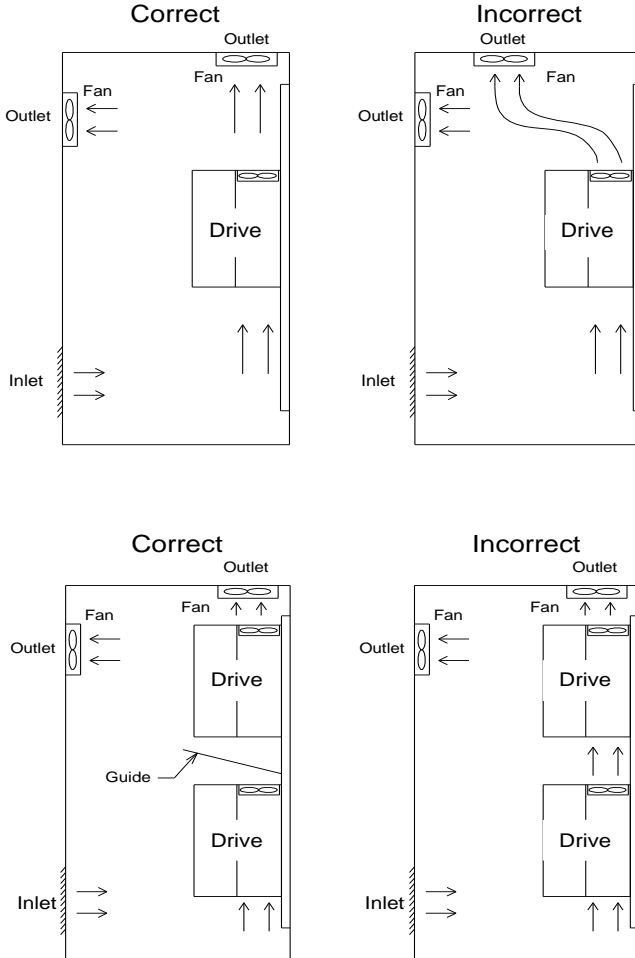
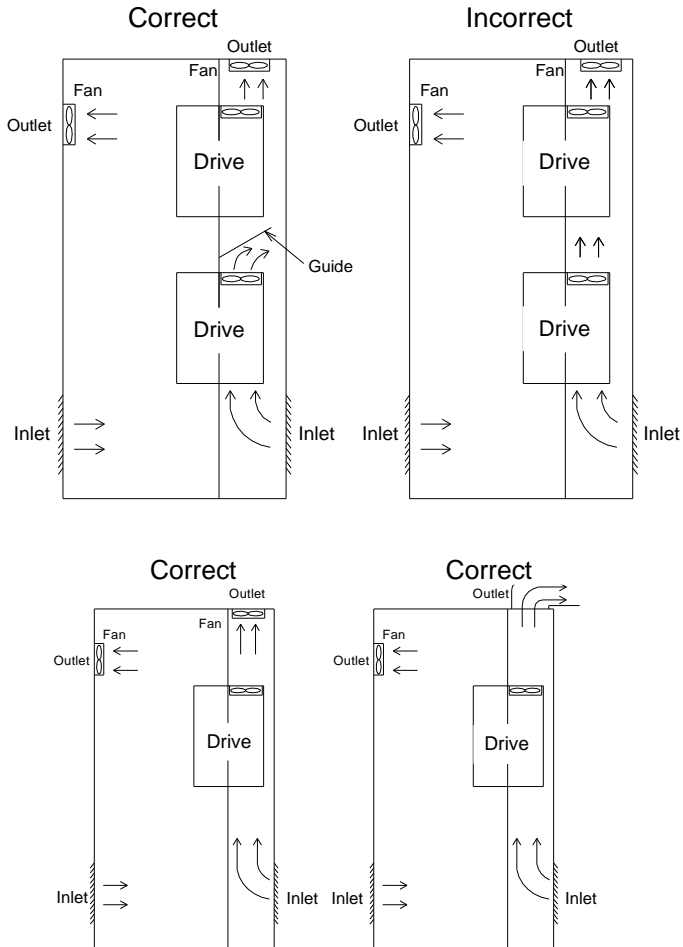

Figure 1: Drive mounting inside the cabinet/control panel
Figure 2: Drive mounting inside the cabinet/control panel
**2-2-3 Arrangement:** Due to the heat generated at the machine operation, the drive must be installed in the ventilate space. The installations of drive are shown as below figure 1 and figure 2: